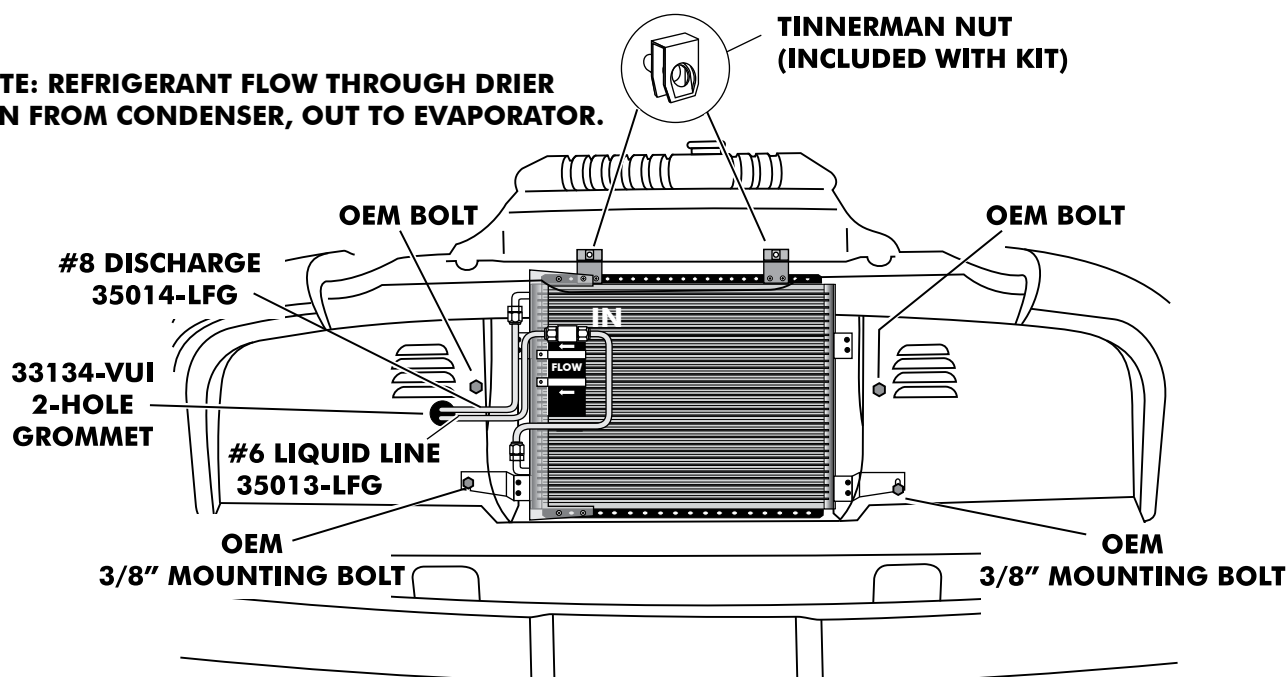

FIGURE 4
- ☐ 5. ROUTE THIS LINE THROUGH THE GROMMET AS SHOWN IN FIGURE 4, AND CONNECT TO DRIER. TIGHTEN THIS FITTING.
- ☐ 7. ROUTE THIS LINE THROUGH THE CORE SUPPORT GROMMET AS SHOWN IN FIGURE 4, AND CONNECT TO THE CONDENSER. TIGHTEN THIS FITTING.